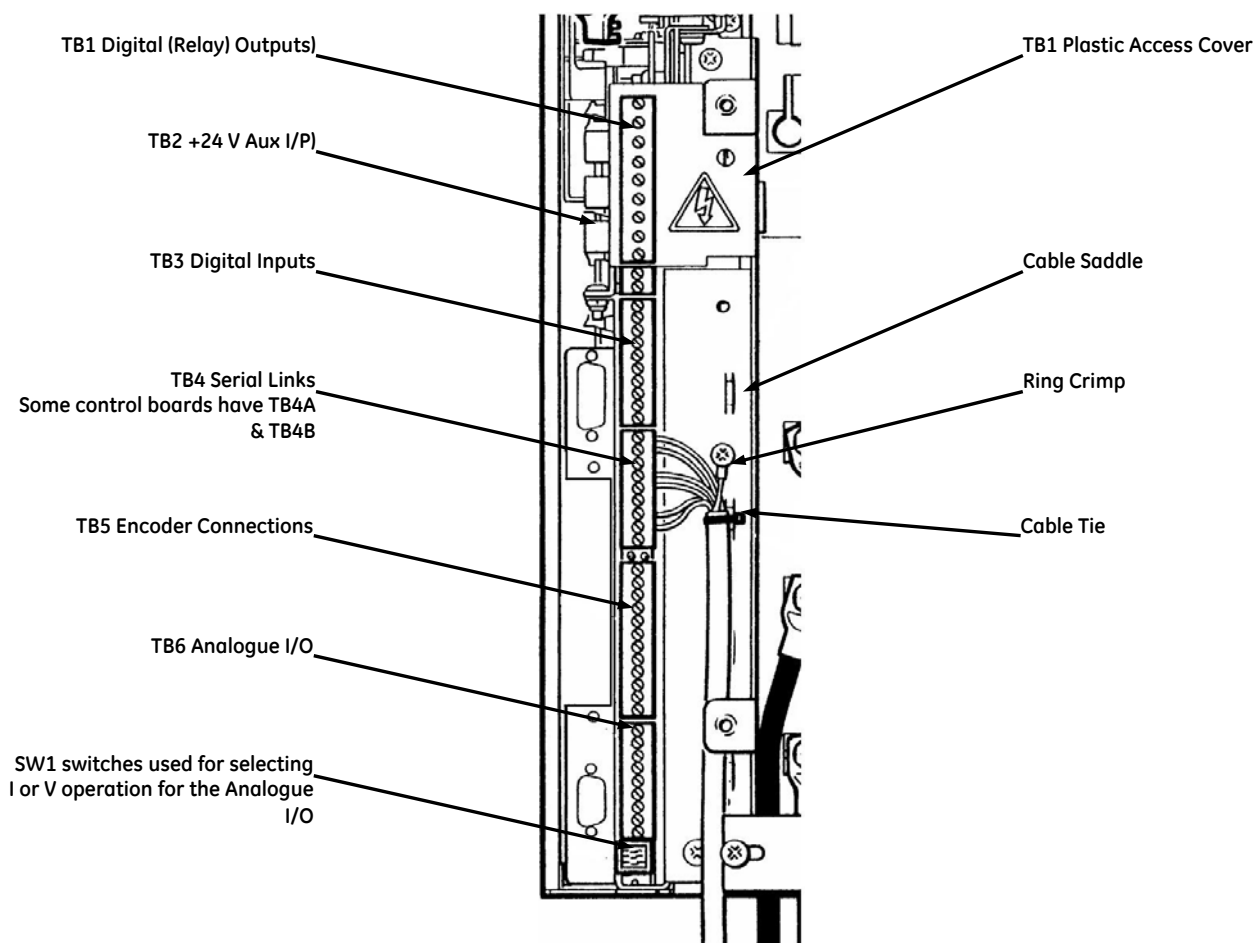

Figure 3-8. – Control Connections
- a) Referring to Figure 1 and to Figure 3-8, connect the control cables as required.. Multicore screened cables should always be used, except for TB1, TB2 and TB3, where screened cable is not mandatory.